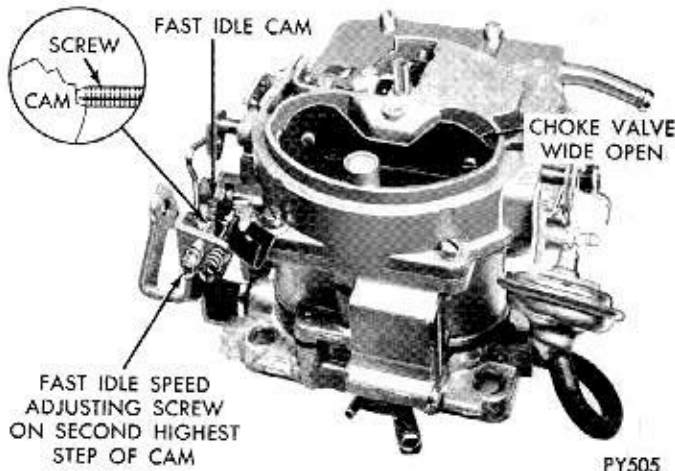

Fig. 17—Fast Idle Speed Adjustment (on Vehicle)
(1) With engine off and transmission in PARK or NEUTRAL position, open throttle slightly.
(2) Close choke valve until fast idle screw can be positioned on second highest-speed step of fast idle cam (Fig. 17).
(3) Start engine and determine stabilized speed. Turn fast idle speed screw in or out to secure specified speed. (See Specifications.)